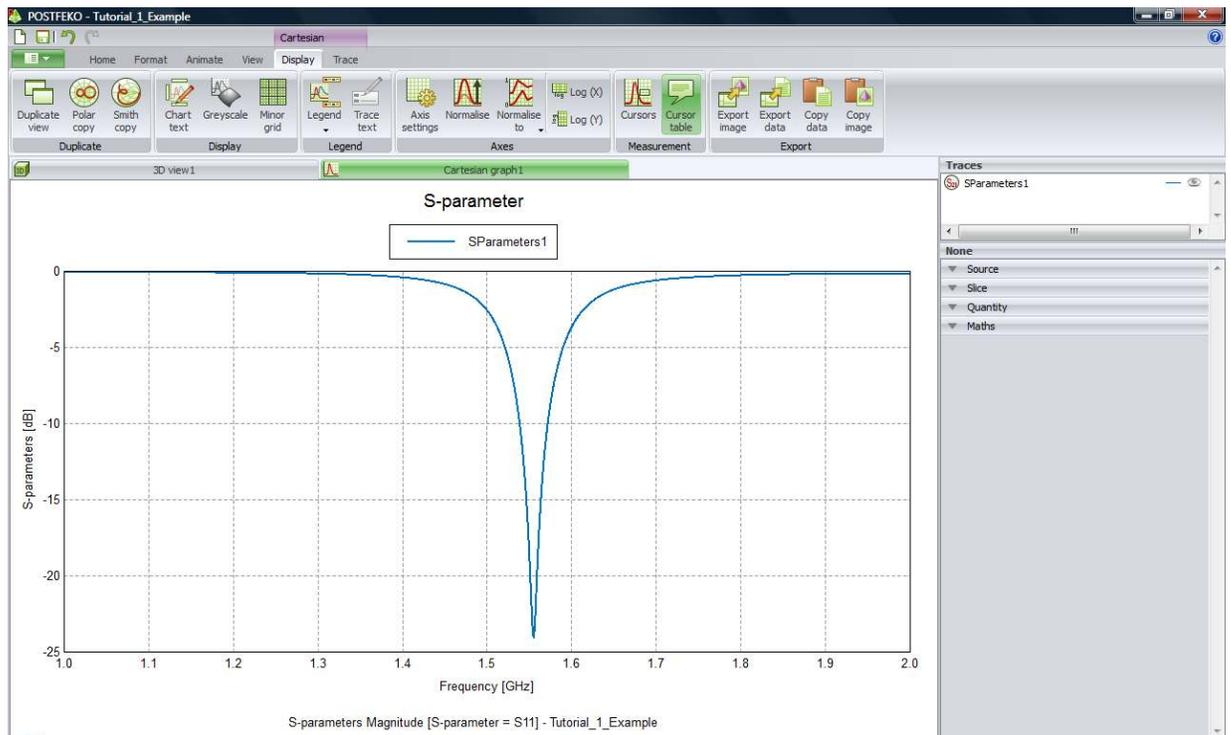

Figure 21.
27. Note that the Patch resonance is around 1.55 GHz (Figure 21). What is the -10 dB bandwidth for this antenna? Use the cursors to identify the bandwidth of this antenna. Which wireless service falls within the bandwidth of this antenna?